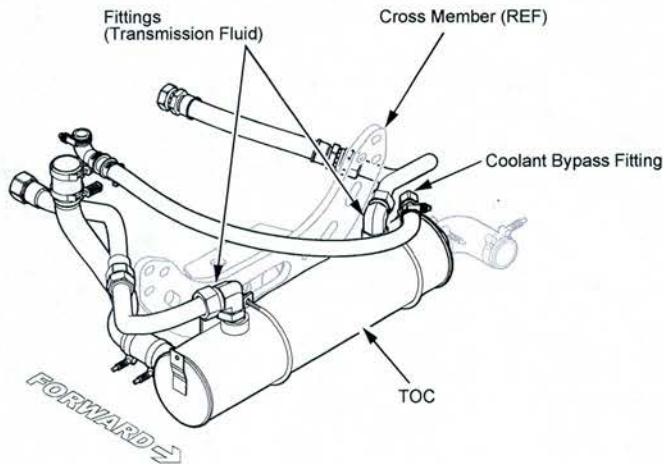

Figure 2
7. Remove the coolant bypass fitting from the TOC. Remove and discard the O-rings from the fitting and set the fitting aside for reinstallation (see Figure 2).
Note: Pay particular attention to the orientation of fittings, for reinstallation. Remove the O-rings from the fittings and discard (see Figure 2).